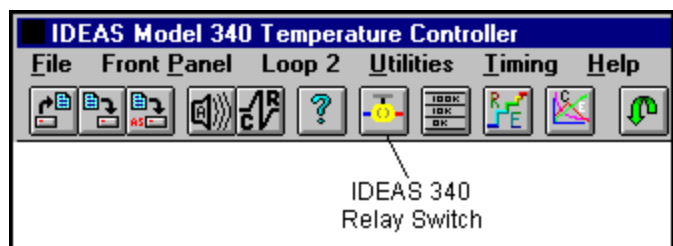
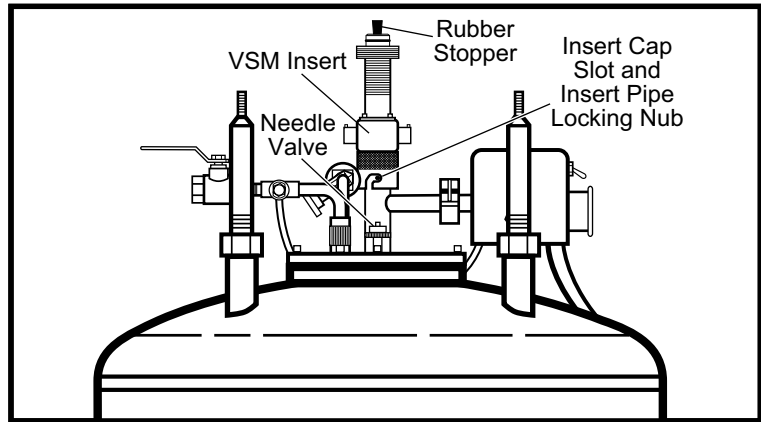

Figure 3-8 IDEAS 340 Relay Switch Button
Figure 3-9 Installing the VSM Insert
13. Open the IDEAS 340 software driver and click the Relay Switch button (Figure 3-8). The Solenoid Valve Assembly clicks and the pump evacuates air from the sample space. Pump out the sample space for about 10 minutes.
14. If pre-cooling with liquid nitrogen, wait until after the boil-off dies down, then shut Vent Valve, unseat Needle Valve and pull it out from the dewar approximately 6 inches. Pump out the valve tube for about 10 minutes, then reseal the Needle Valve (Figure 3-9). If not pre-cooling, skip this step.
15. Click the IDEAS 340 Relay Switch off (Figure 3-8). Push Solenoid Valve Assembly Flush Switch toward **FLUSH** and remove Insert Pipe Cap. Slide the VSM Insert into the Insert Pipe. Align VSM Insert Cap Slot with Insert Pipe Locking Nub and turn the VSM Insert clockwise to lock in place (Figure 3-9).
16. Plug top of Insert with the supplied rubber stopper and push the Flush Switch away from **FLUSH** (Figure 3-9). Click the IDEAS 340 Relay Switch on (Figure 3-8).
19. If not pre-cooling, shut Vent Valve, unseat Needle Valve and pull it out from the dewar approximately 6 inches, and pump out the valve tube for about 10 minutes. Securely reseat Needle Valve after pumping (Figure 3-9). Follow instructions in Paragraph 3.2 to transfer liquid helium from the storage dewar to the magnet dewar.
28. Click the IDEAS 340 Relay Switch button off (Figure 3-8). Push the Flush Switch toward Flush and remove the rubber stopper from the top of the VSM Insert (Figure 3-9).